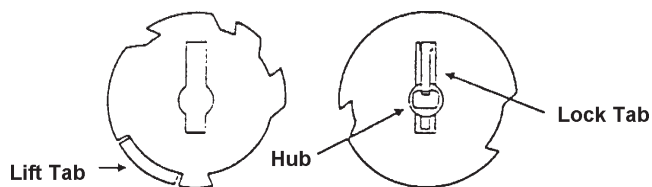

Figure 5
2. Locate the Lift Tab on the outer edge of the Cam. (See fig. 5.)